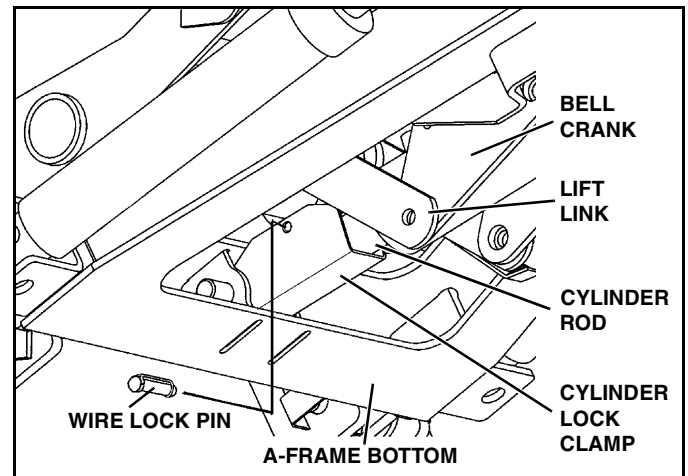

Figure 1-7
5. Position the cylinder lock clamp around the exposed (chrome) portion of the lift cylinder with the open side of the cylinder lock up. Install the pin. (See Figure 1-7).